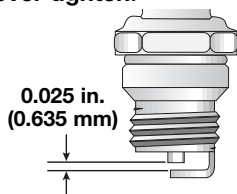

Fig. 28
3. Replace a cracked, fouled or dirty spark plug. Set the air gap at **0.025 in. (0.635 mm)** using a feeler gauge (Fig. 28).